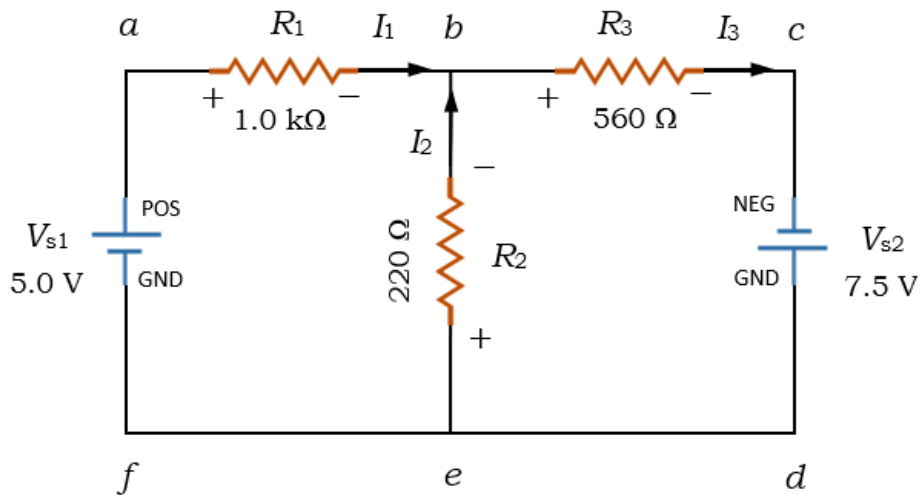
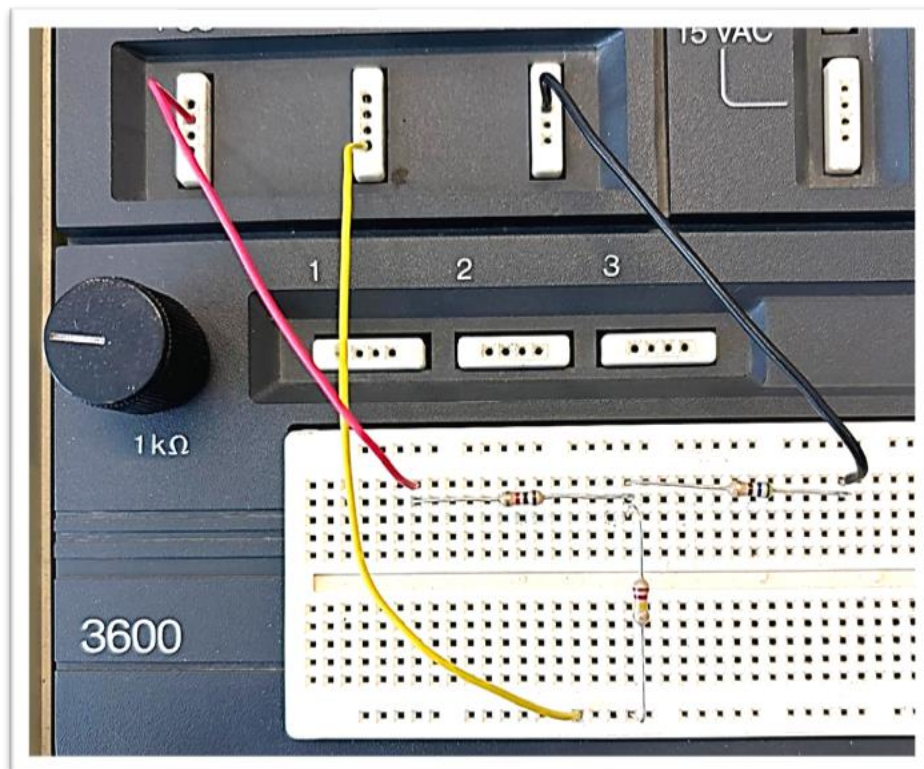

Fig. 3
Fig. 4
1. Using the resistors: $R_1 = 1.0 \text{ k}\Omega$, $R_2 = 220 \text{ }\Omega$, $R_3 = 560 \text{ }\Omega$, implement the circuit given in **Fig. 3** as shown in **Fig. 4**.